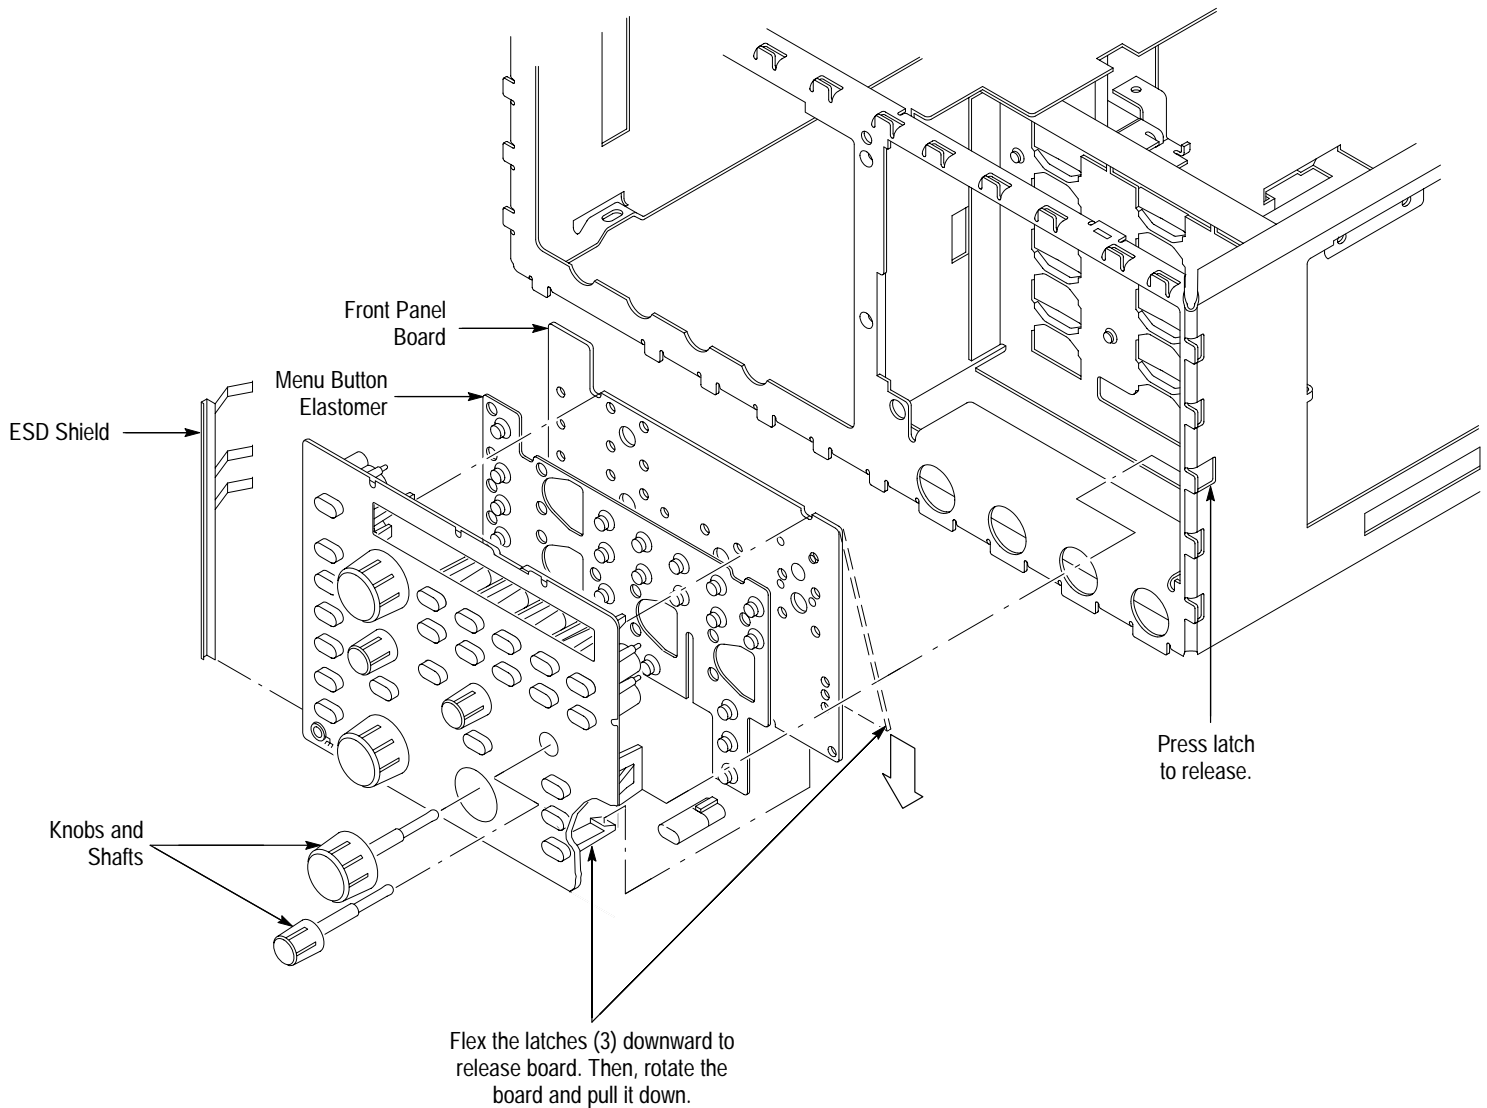

Figure 6–12: Disassembly of the Front-Panel Assembly
- d. Hand disassemble the front-panel-assembly components using Figure 6–12 as a guide. Reverse the procedure to reassemble, using the same Figure 6–12 as a guide.
- a. If the menu flex circuit was removed in step 8, do the following subparts to install a new circuit (reference Figure 6–11 on page 6–35):
- d. If the front-panel assembly was disassembled for cleaning in step 7, apply a thin coating of bearing grease (Dow Corning #1292) to the two switch patterns (circular patterns for the vertical scale rotary switches) on the circuit board. Then reverse substeps 7a–7d to reassemble, using Figure 6–12 as a guide.
- e. Do in reverse order substeps 4a through 4d, reversing the procedure outlined in each step. Be sure to dress the CPU-to-front-panel cable so that the loop of extra cable length is in the front-panel cavity of the chassis, as shown in Figure 6–4.